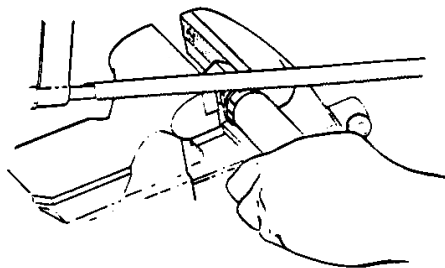

Figure 7. Removing Fire Sleeve From Hose Assembly
- Step 1. (Fire-sleeved hose lines only). Remove band clamps by cutting clamp "buckles" with hack saw. Remove fire sleeve from hose assembly. (See Figure 7.)